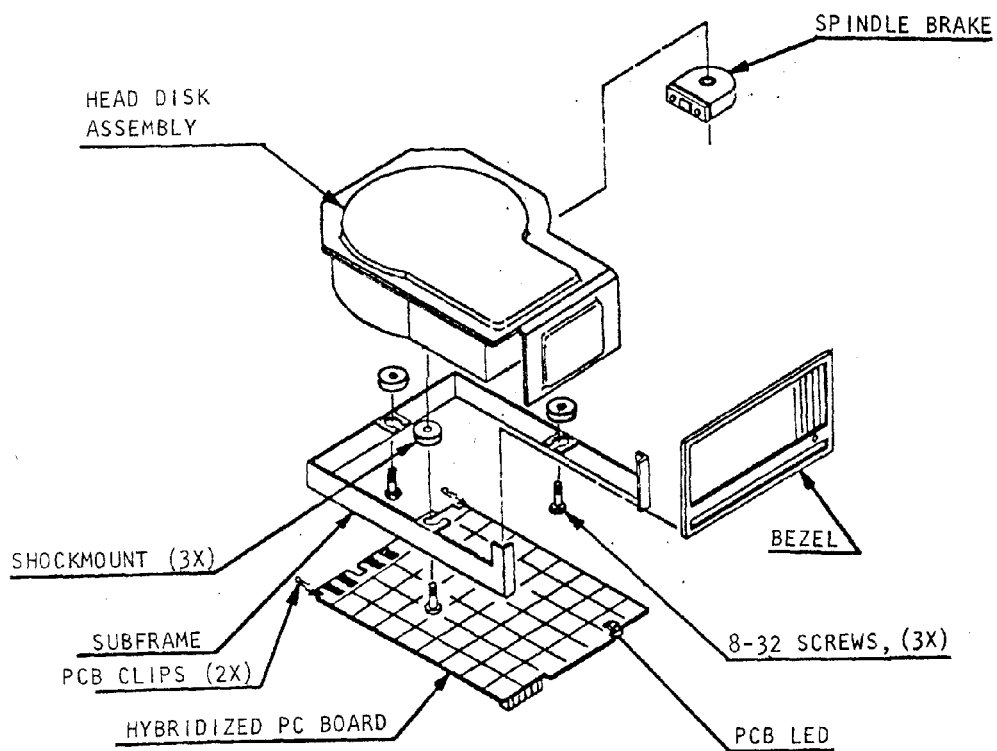

Figure 4-1. Field Replaceable Parts
- b. Remove and save the three 8-32 screws shown in Figure 4-1.